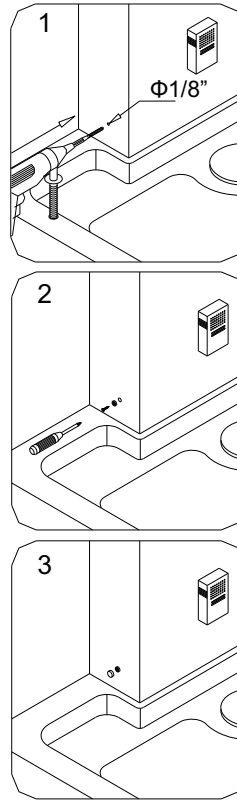

Fig. 12
6. Drill the 1/8" hole in the **Retainer (36)** through the pre drill holes at the lower section of the **Shower column**. Secure the **Shower column** to the **Retainer (36)** using **Round head screw ST4.2×16 (24)**. Cover the exposed screw head with the **Decorative cover (25)**. See fig. 12 for details.